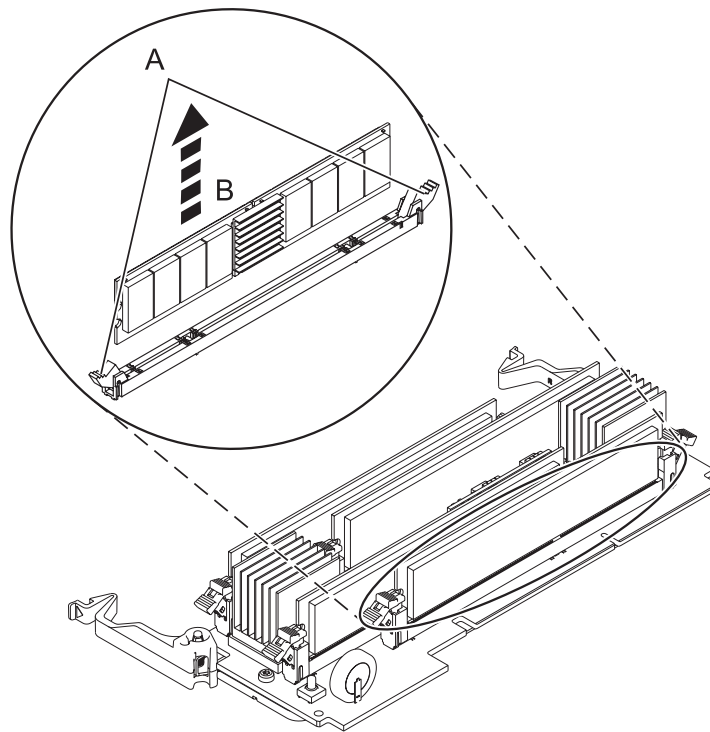

Figure 10. Removing a memory module
9. Remove the memory module as follows. Unlock the memory module by pushing the locking tabs (A) open, as shown in Figure 10. Lift the memory module (B) out of the connector. The lever action of the tabs forces the memory module out of the connector.